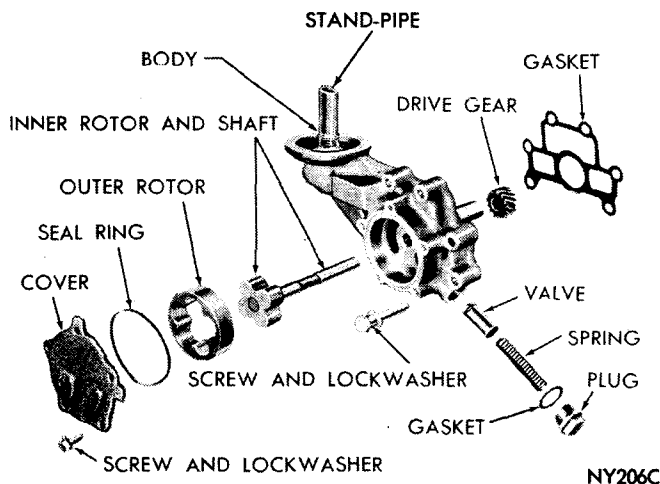

Fig. 46—Oil Pump (Disassembled View)
Disassembly (Fig. 46)
(4) Remove oil pressure relief valve plug and lift out spring and plunger (Fig. 46).